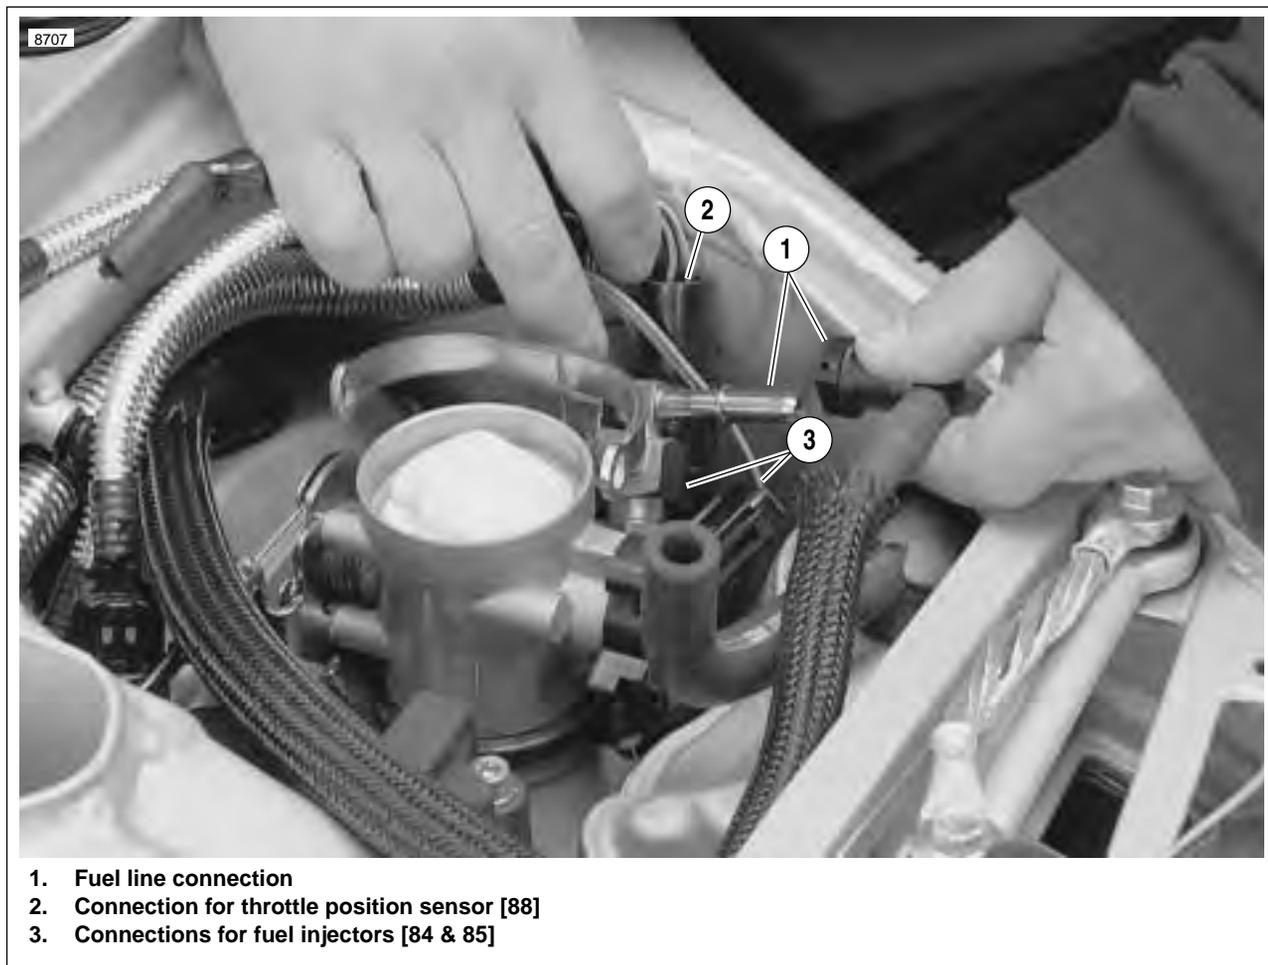

Figure 3-15. Fuel Line and DDFI Electrical Connections (Typical)
21. See Figure 3-15. Connect throttle position sensor [88].